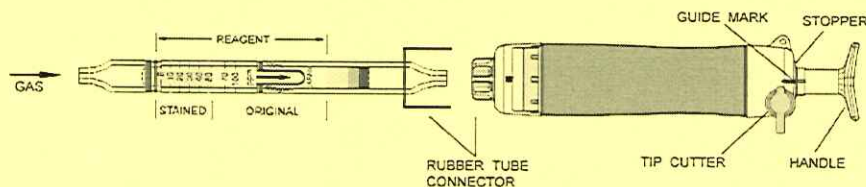

Fig.1
- ② Insert the detector tube into the aspirating pump securely as shown in Fig.1. (Arrow mark shall point to the pump.)
- ③ Align the guide marks on the handle and stopper of the aspirating pump.
- ④ Pull the pump handle at a full stroke until it locks and wait for 1.5 minutes or until the completion of sampling is confirmed with the flow indicator of the pump. (See descriptions about the flow indicator in the instruction manual of the pump.)
- ⑤ On completion of sampling, read the scale at the maximum point of the stained layer.